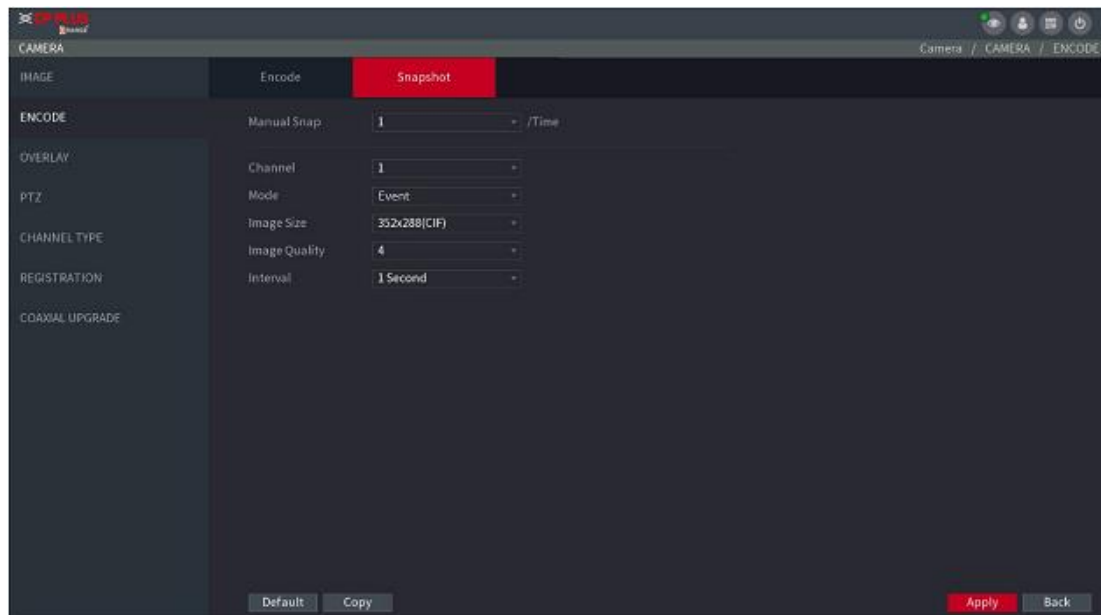

Figure 5-88
**Step 2** In the **Mode** list, select **Event**, and then configure other parameters. See Figure 5-88.